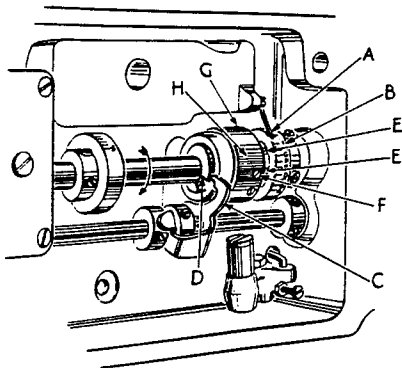

Fig. 26
3. Lay the machine on its side and set the stitch length of the top roller feed at its longest travel so that the pointer (A, Fig. 26) is at the letter "L" on the indicator (B). To accomplish this, depress the lever (C) and while holding it down, turn the handwheel in operating direction until the point of the lever is felt to drop into the slot (D) in the adjustable eccentric. Still holding the lever down, continue turning the handwheel until it can be turned no further. If at this point, the pointer (A) is not at the letter "L", loosen the two screws (E) in the hub of the indicator and turn the indicator on the shaft so that the letter "L" is at the pointer. Tighten screws.
4. Now check the synchronization of the top feed roller and the main feed. Raise the top roller off the bed plate by means of the hand lifter lever, turn handwheel in operating direction and observe the top roller and main feed dog. They should begin feeding at the same time. To synchronize the two feeds, lay the machine on its side and loosen the time screw (F, Fig. 26) in the adjustable eccentric. The time screw can be easily identified by the words "time spot" stamped on the right side of the eccentric. Now loosen set screw (G). If the top feed roller began feeding before the main feed dog, turn the eccentric (H) in the opposite direction from the operating direction of the main shaft. The operating direction of the main shaft is indicated by arrow (Fig. 26). Only a slight movement of the eccentric is necessary to change the time at which the top roller commences to feed. Tighten the two screws (F and G) and check synchronization. When tightening the two screws do not force the eccentric against the clutch driving arm as a bind may be created. If the main feed dog began feeding before the top feed roller, proceed as above except turn the eccentric in the same direction as the operating direction of the main shaft.
5. Changing the position of the top feed eccentric on the shaft will affect the location of the top feed stitch length indicator (B, Fig. 26) and it will now have to be re-set so that pointer stops at the letter "L" as described in paragraph 3 above.